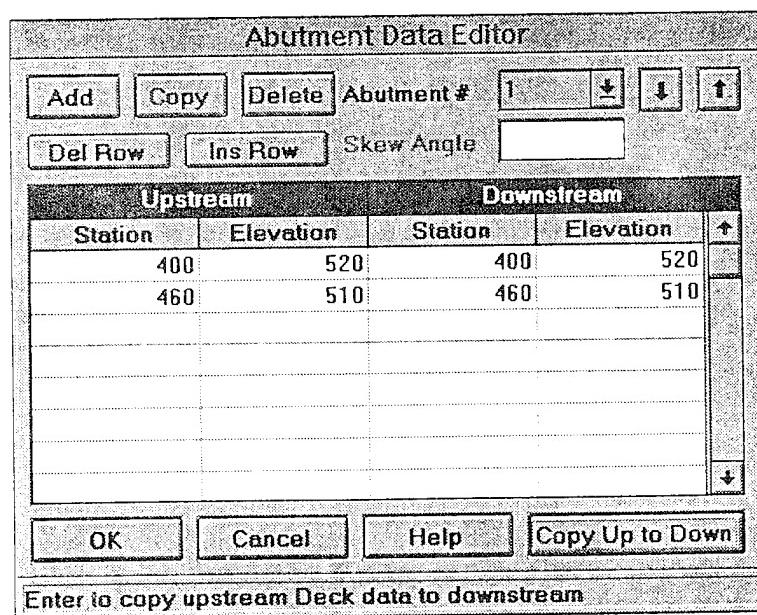

Figure 6.14 Abutment Data editor
**Bridge Abutments.** The bridge abutments are used to supplement the bridge deck information. Whenever bridge abutments are protruding towards the main channel (sloping inward abutments), it will be necessary to block out additional area that cannot be accounted for in the bridge deck. In this case the user has the ability to add abutments into the data set. To add abutments the user presses the **Abutment** button on the Bridge/Culvert Data editor. Once this button is pressed the Abutment data editor will appear as in Figure 6.14.